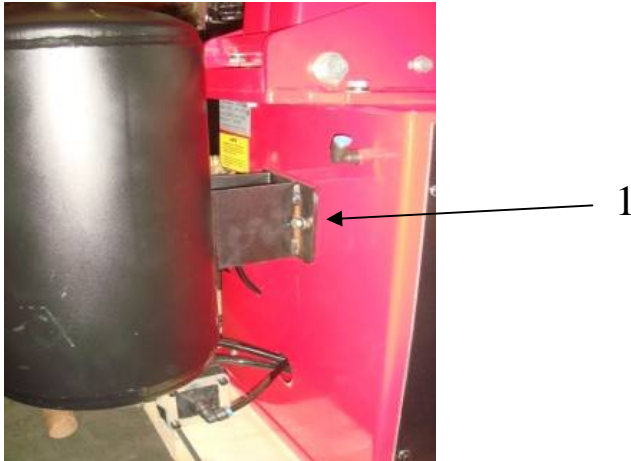

Fig 1
3.2.1.1 Use 2 pcs M8 bolts(1—1) to connect the air tank at the rear of the body as indicated in Fig1.